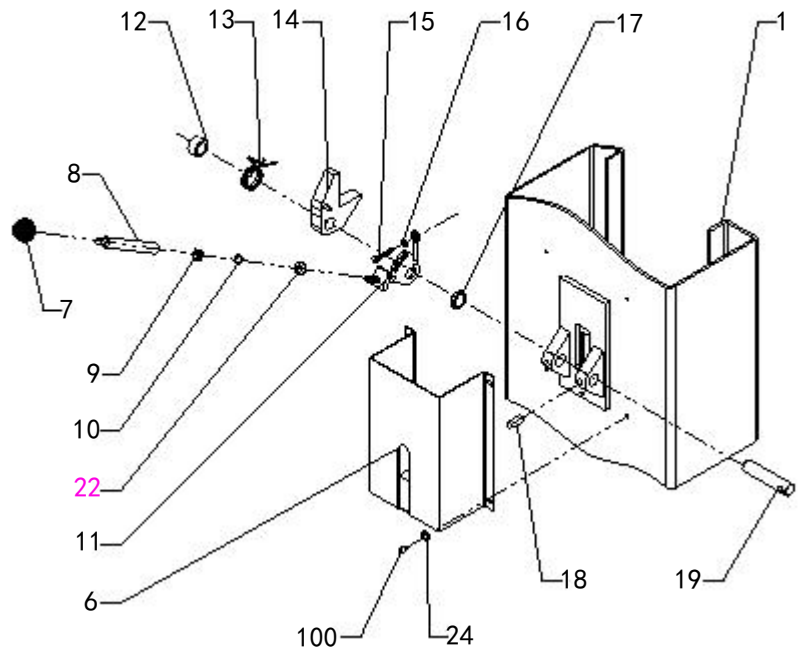
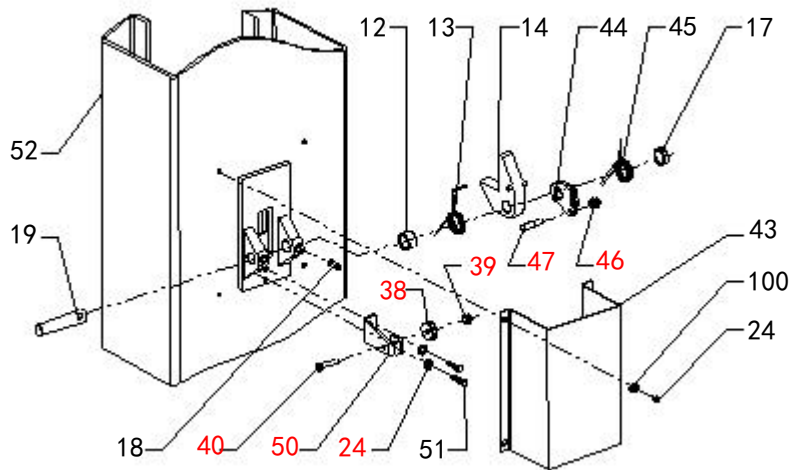

Fig. 26 Power-side safety device
Fig. 27 Off-side safety device
J. Install safety device (See Fig. 26 & Fig. 27).